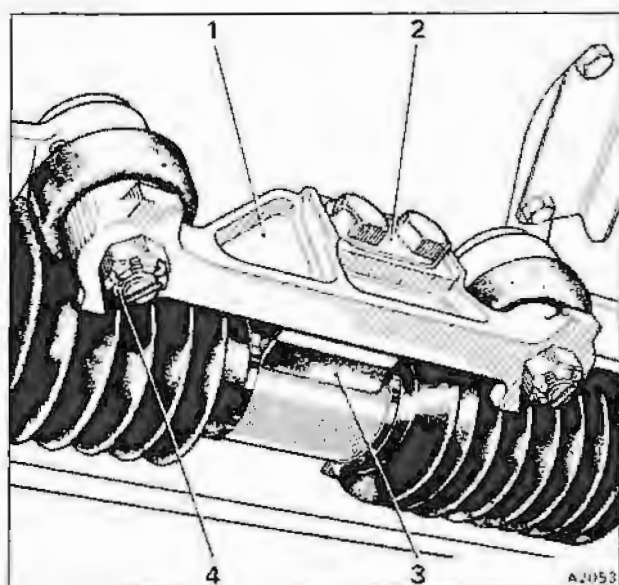

Fig. N2-20 Inner ball joint bracket in position
3. Align the inner ball joint bracket and the steering rack unit centre block seal (see fig. N2-20).